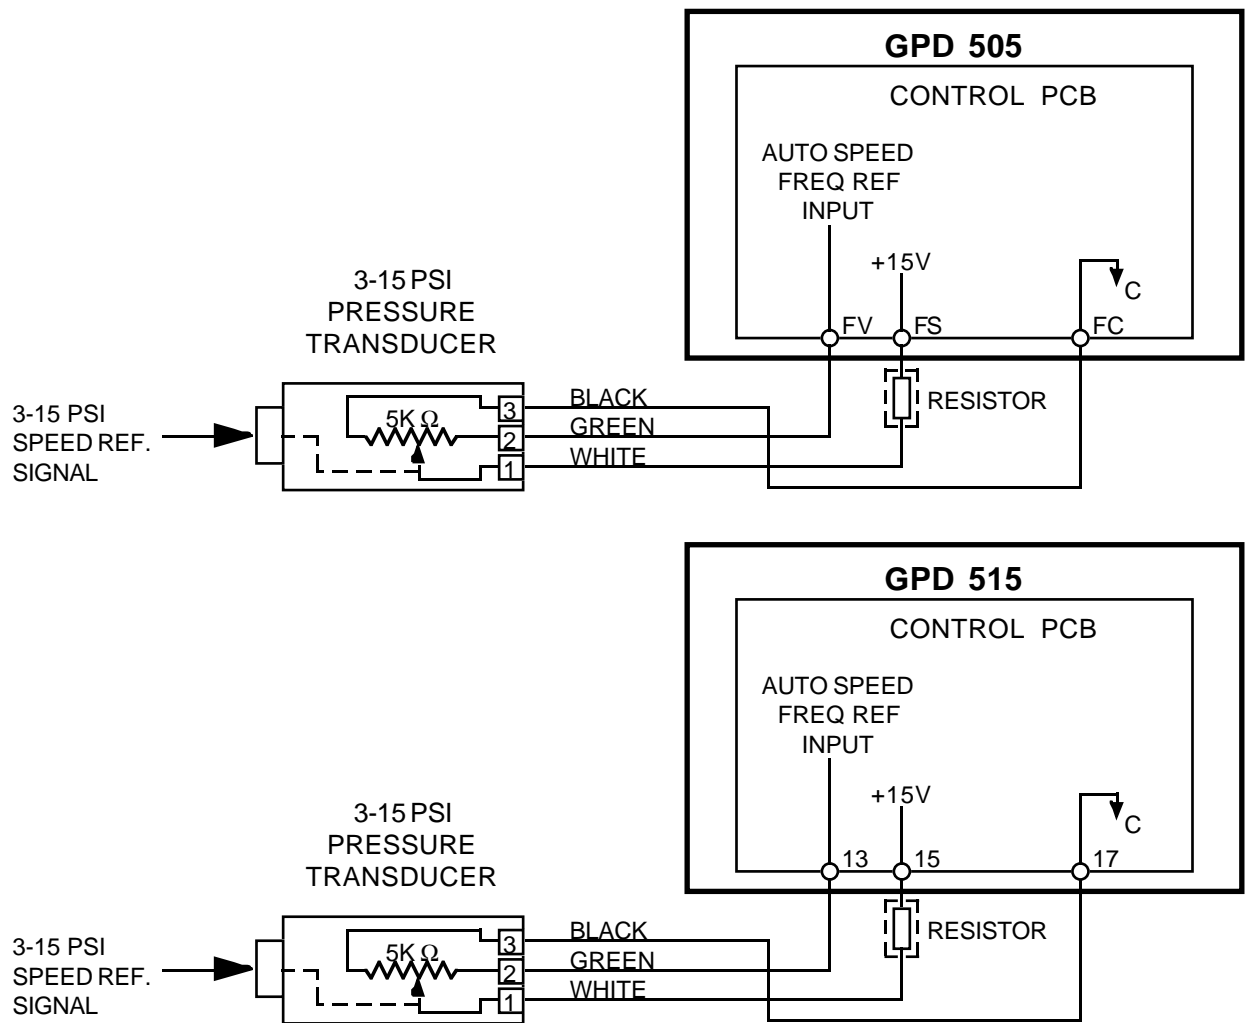

Figure 2. Wiring of Pressure Transducer Kit
4. Connect leads from the Transducer to terminals inside the Drive. See Figure 2.